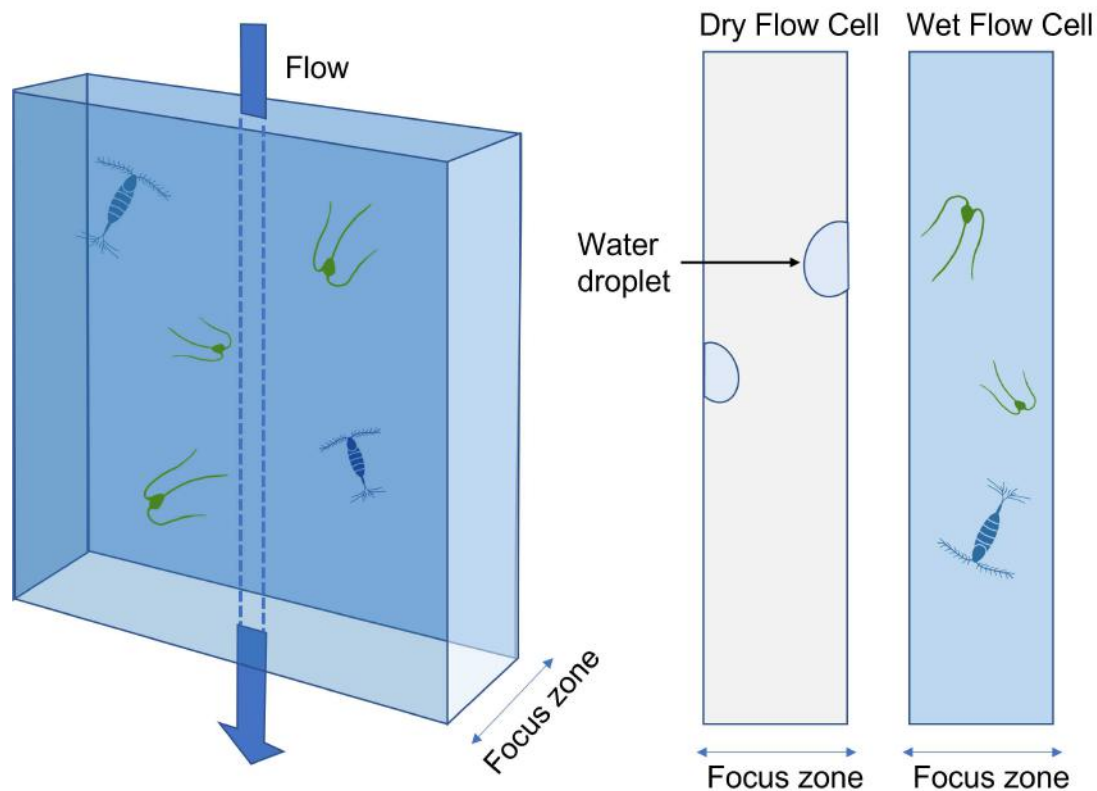
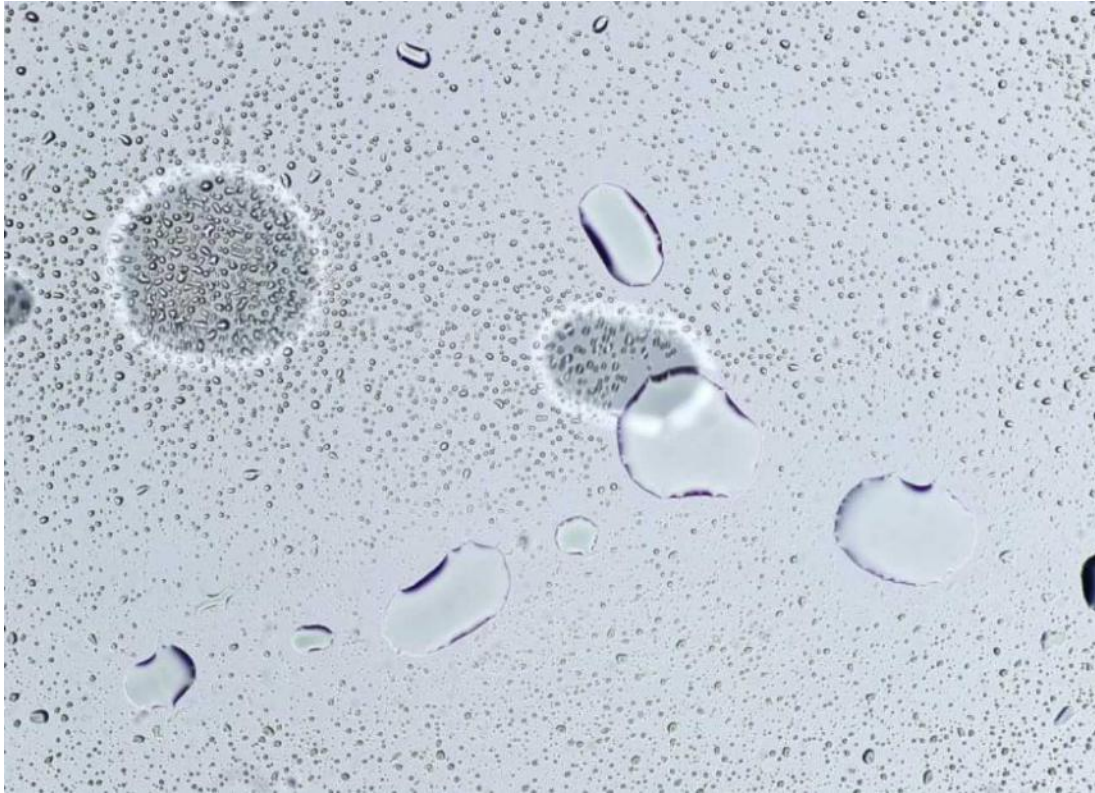

Figure 5: Focus zone of the Flow Cell
Figure 6: Water droplets
2. Check focus on the two sides of the Flow Cell, and try to have a focus between the two sides (Fig.5). In the Fig.6, you can see on a dry Flow Cell that has been exposed to water, there are still water droplets on both sides. Use them as an indicator to do the focus.
On Fig.6, there is a good focus on the front, and you can see two more poorly focused water droplets on the back. The focused bubbles are on one side of the Flow Cell, which means you can now count the number of clicks it takes to get the bubbles in the back well focused. Multiplying the number of clicks by the distance of the button chosen to go from one side to the other gives the actual distance of the Flow Cell. Then divide this distance by two, enter the value in "Focus distance (μm)" and use the double arrows to focus in the middle of the 2 sides of the Flow Cell.